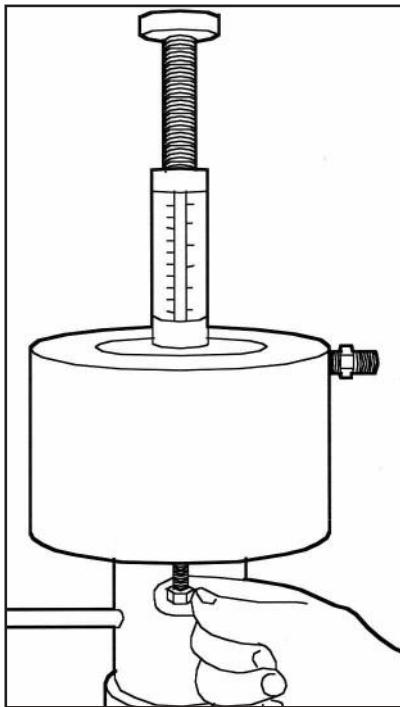

Figure 53
- For all pumps except the P1500W400, use a 1/4" Allen wrench to remove the motor cylinder set screws that hold the motor cylinder to the oil chamber body and remove the motor cylinder. For the P1500W400 pump, use a 1/8" Allen wrench for this step. (Fig.53)